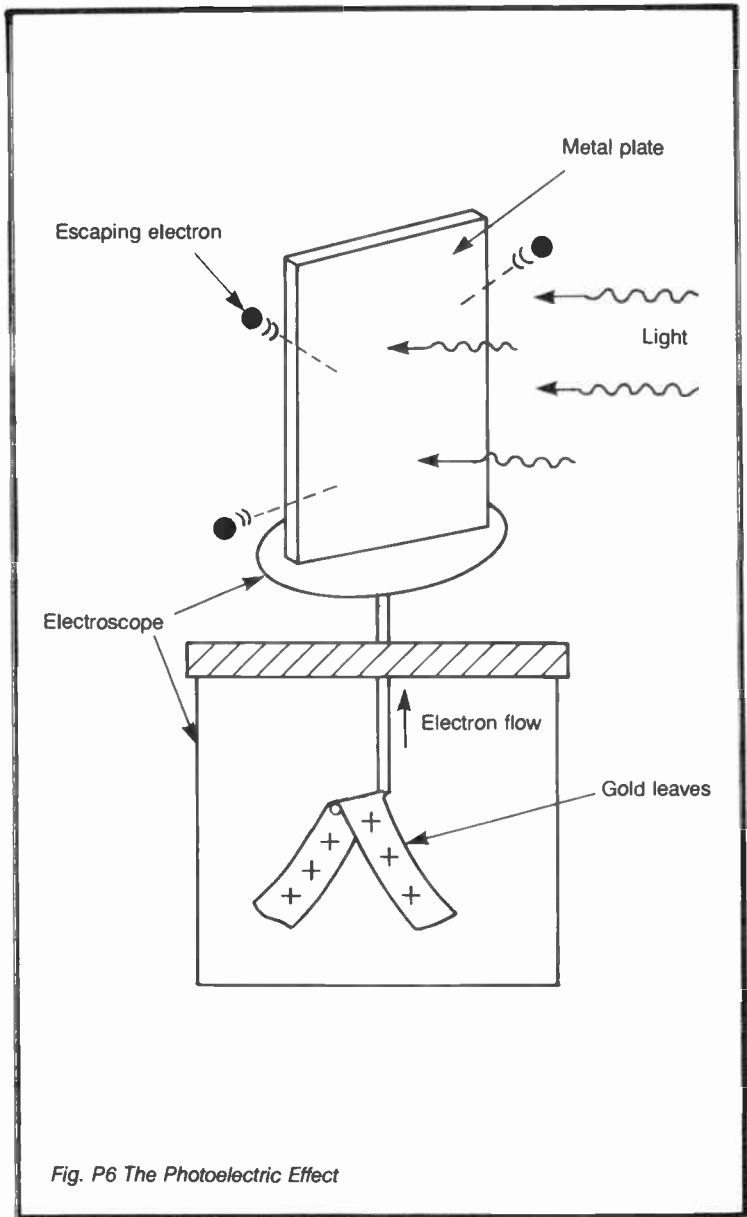

Fig. P6 The Photoelectric Effect
**PHOTOELECTRIC EFFECT** Experimentally this can be demonstrated (as it was in early days) by a simple electroscope as shown in Figure P6. Light falling on the metal plate attached to the top electrode causes electrons to be emitted. The two leaves therefore become positively charged and fly apart. The phenomenon was first explained by Einstein on the assumption of the existence of photons. The energy of a photon is given by  $hf$  where  $h$  is Planck's constant and  $f$  is the frequency of the radiation. Provided that the photon energy exceeds the work function ( $\phi$ ) of the material, an electron near the surface which absorbs the energy of a photon gains sufficient energy to jump clear.